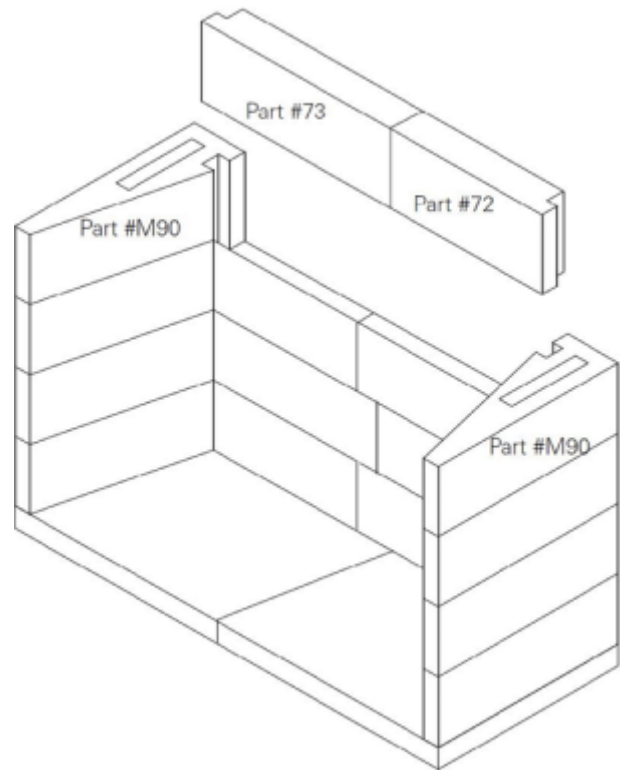

FIGURE 30
- Continue assembly of the consecutive courses of the firebox side wall and back wall, making sure to stagger the backwall components so that the vertical joints do not align. Apply Earthcore adhesive to the top of each layer of wall components, set the next course above into place. Be sure to Earthcore adhesive all vertical joints of the side walls, as well as the sidewall to back wall connection when setting each component to its mate (**Figure 30**)